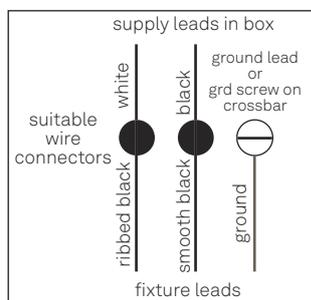

Figure 7. Wiring Diagram
- 11 With the fixture composition in-place, and while the fixture is still supported on the nylon all-thread rods, connect the exposed leads of the fixture to the leads in the electrical box according to the wiring diagram (Figure 7) using the wire and wire connectors provided.